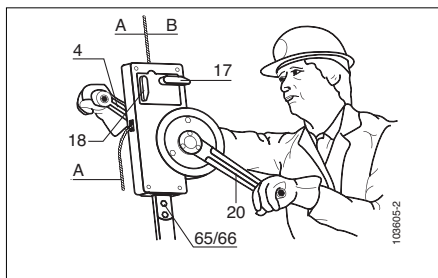

Fig. 2
- a) **anti-tilt device** (on fixed stirrups, TANGOR platforms): tilt the platform until the safety device of the lower hoist locks. Take the load up on this hoist and then reopen the jaws by lifting the yellow operating lever (17).
- b) **no-load device**: the safety jaws should lock when the platform touches the ground. Slightly raise the platform and then reopen the jaws by lifting the yellow operating lever (17).
- c) **centrifugal brake** feed the lifting wire rope (A) into the unit until it stops and then quickly pull it back. The weights of the inertia block of the centrifugal brake should click, showing that they are free to turn.
Position the scafor™ on the stirrup with the rounded side of the casing facing the operator, as in fig. 2. Fix it with the two anchor pins (65) and tighten the nuts (66).